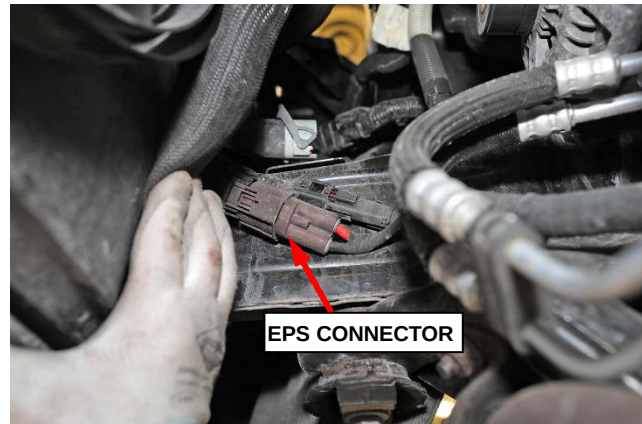

Figure 26 – EPS Connector
52. Separate the EPS connector (Figure 26).